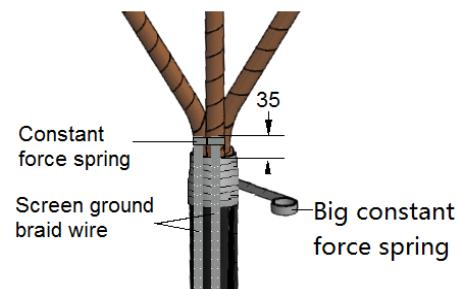

Figure 3
2. As figure 3 shown, securing three ground braid wires on the each of the bottom of cable copper screen with the three smallest constant force springs separately, wrap several layers of PVC tape on each of the three smallest constant force springs. Polish the steel armour, gather together the three ground braid wires on the polished area of armour, secure them with the biggest constant force spring. Wrap several layers of filling tape over the steel amour and inner sheath, and cover the filling tape with several layers PVC tape